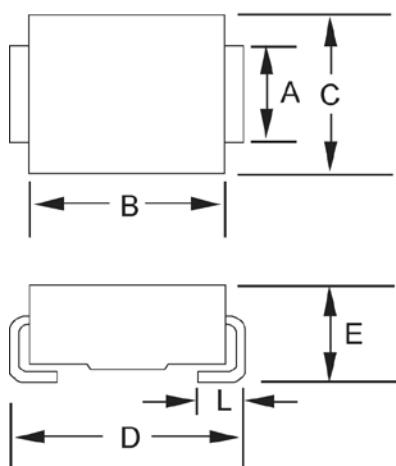

**FIGURE 6**
The TVS low capacitance device configuration is shown in figure 4. As a further option for unidirectional applications, an additional low capacitance rectifier diode may be used in parallel in the same polarity direction as the TVS as shown in figure 5. In applications where random high voltage transients occur, this will prevent reverse transients from damaging the internal low capacitance rectifier diode and also provide a low voltage conducting direction. The added rectifier diode should be of similar low capacitance and also have a higher reverse voltage rating than the TVS clamping voltage  $V_C$ . The Microsemi recommended rectifier part number for the application in figure 5 is the "SMBJLCR80" or "SMBGLCR80" depending on the terminal configuration desired. If using two (2) low capacitance TVS devices in anti-parallel for bidirectional applications, this added protective feature for both directions (including the reverse of each rectifier diode) is inherently provided in Figure 6. The unidirectional and bidirectional configurations in figure 5 and 6 will both result in twice the capacitance of figure 4.